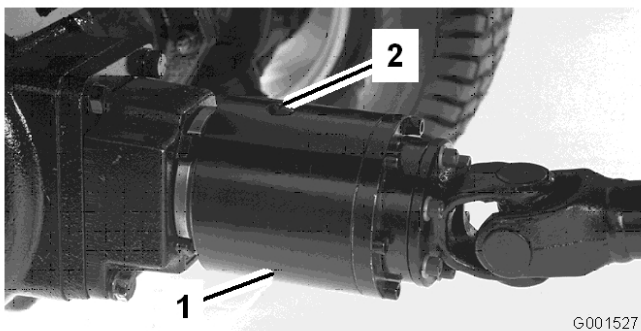

Figure 53
3. Rotate the clutch so that the check plug is positioned downward (Figure 53).